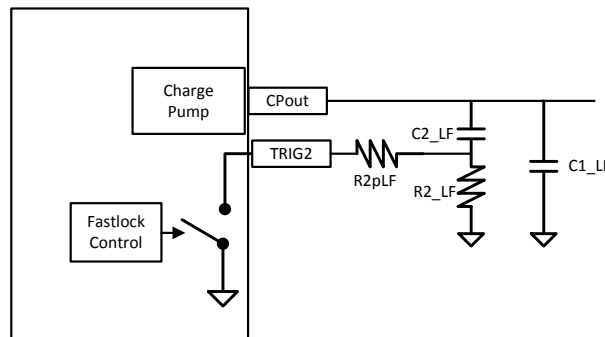

Figure 4. Suggested Schematic to Enable the Variable Loop Bandwidth Filter In Fastlock Mode
3. The loop filter can be configured to have a switchable R2 resistor to increase loop bandwidth and hence reduce lock time. A resistor R2pLF is added in parallel to R2_LF and connected to the a terminal on the PLL to use the internal switch. Any of the terminal MUXout, MOD, TRIG1, or TRIG2 can be configured for the function. The terminal configuration is set as *Output TOC Running*. Also set the terminal as *output inverted OD* (OD for open-drain) so the output will be high impedance in normal operation and act as ground in Fastlock. The suggested schematic for that feature is shown in Figure 4.